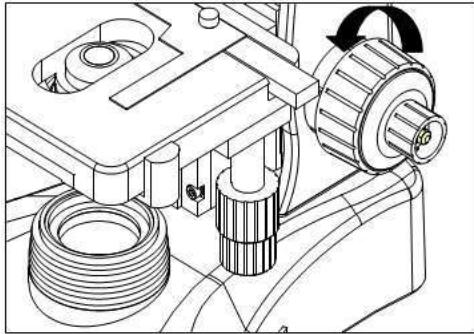

Fig.5
2.2.3 Installing objectives (Fig.5 & 6)